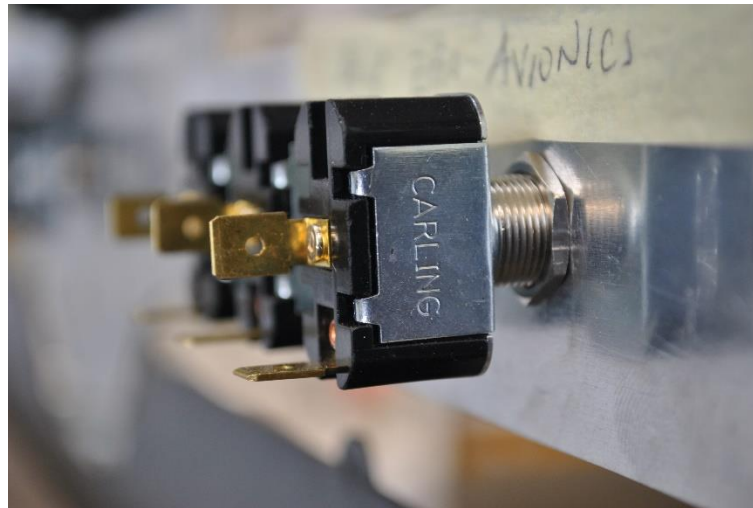

Figure 1: Incorrect master switch
1. With reference to figure 1, if the master switch has CARLING written on the side (bought from Aircraft Spruce) it needs to be replaced.